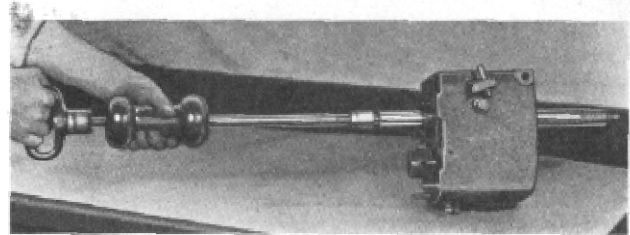

Figure 4
(28) backward on main shaft far enough to remove the split lock ring (21), using transmission gear drift J-786.
* Pull main shaft and rear bearing out of transmission case by means of adapter J-778 screwed into end of main shaft and puller J-352 (Fig. 4).